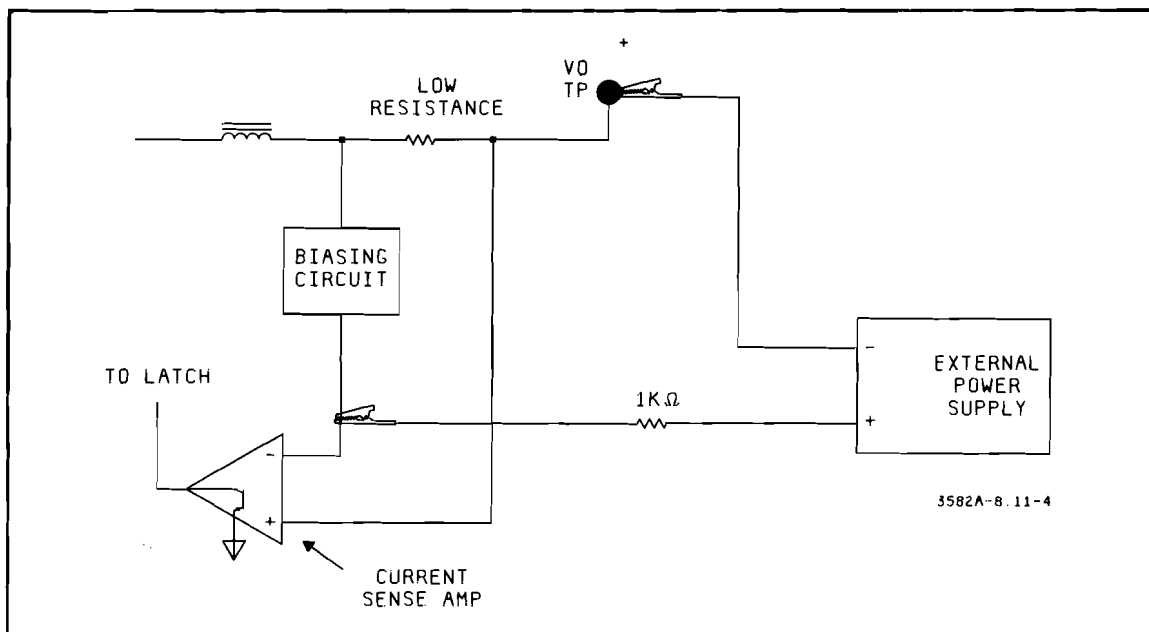

Figure 8-11-4. Setup For Current Limit Check.
1. To simulate an overcurrent condition requires the use of an external power supply. Before connecting the supply, verify that the output voltage is set to zero. If the power supply under test is a positive supply, connect the negative output of the external supply to the voltage output test point. For negative supplies, connect the positive output from the external supply. Connect the other output from the external supply through a 1Kohm resistor to the input of the current sense amplifier which as the opposite polarity to the supply under test. For example, if the supply under test is a positive supply, connect the positive output from the external supply to the negative input of the current sense amplifier using a 1Kohm resistor (see Figure 8-11-4).